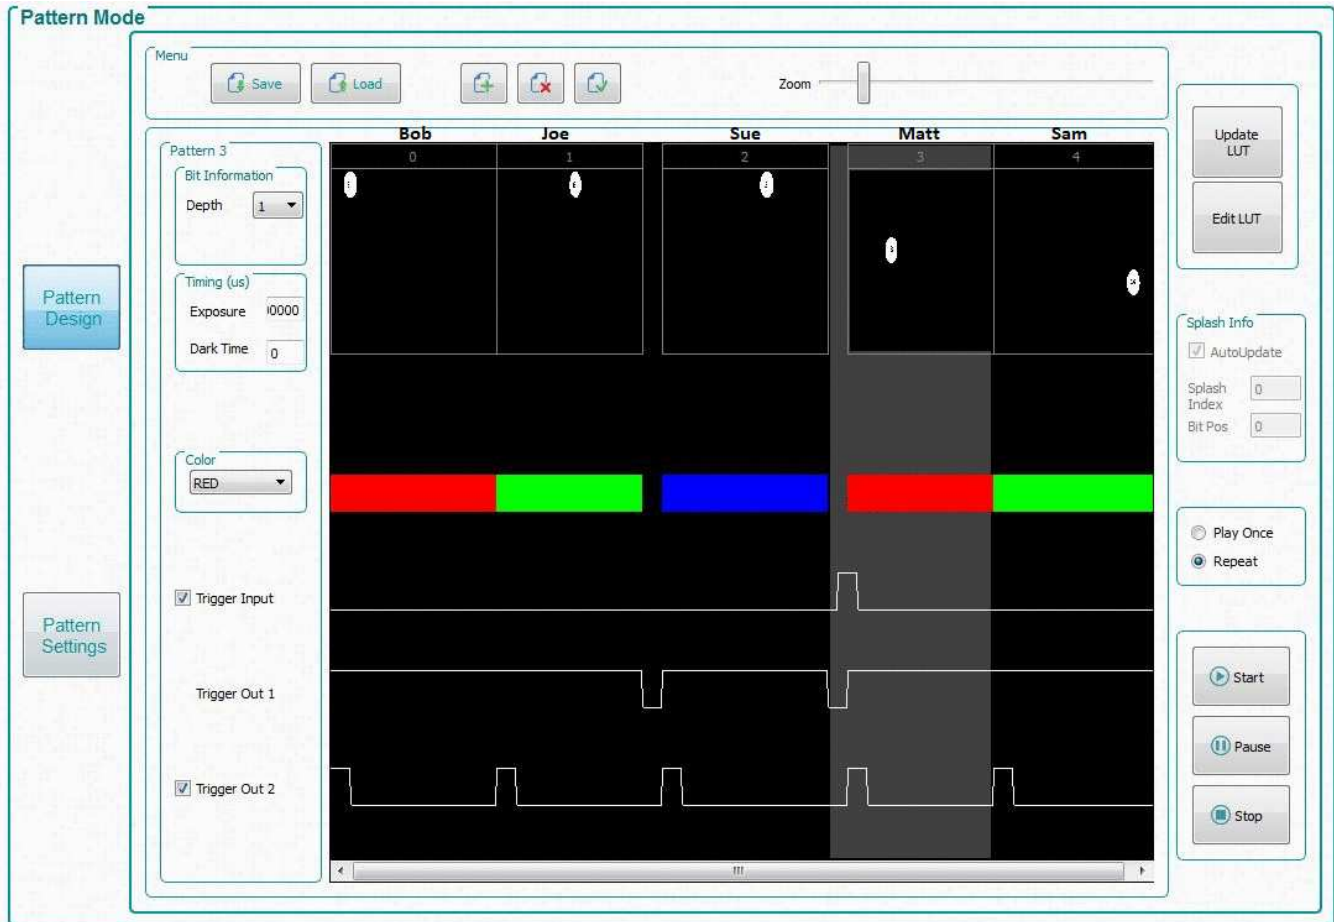
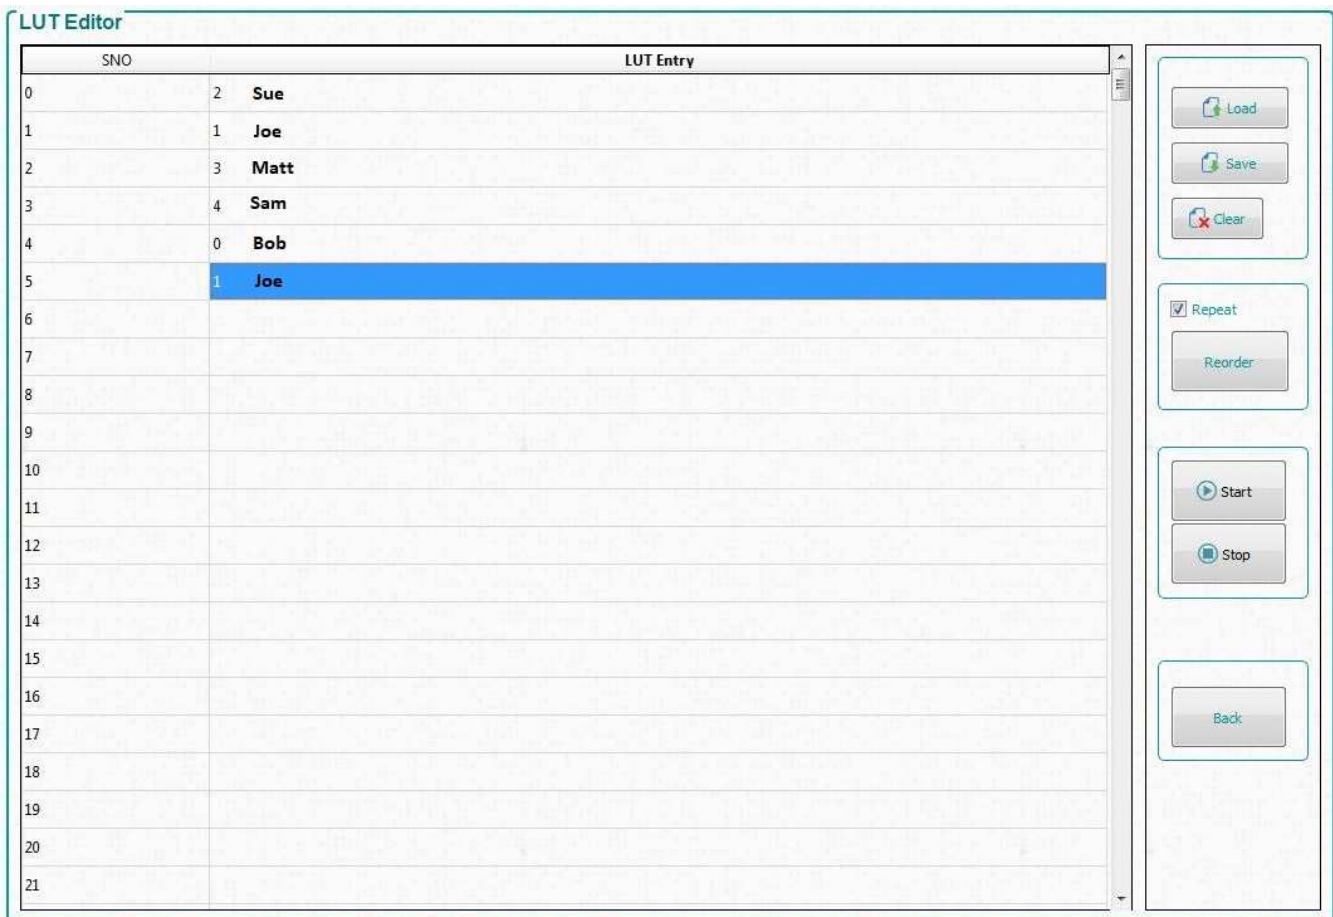

Figure 3-9. Pattern Design Example
Figure 3-10. LUT Editor Panel
The *LUT Editor* panel is shown in Figure 3-10 where the column labeled “SNO” (i.e. Sequence Number) represents the pattern display slot numbers according to the order set (after clicking *Update LUT*) in the *Pattern Design* tab as shown in Figure 3-9. The user can then reorder those patterns by either manually entering the pattern number of their choice into a row in the “LUT entry” column or loading a text file beginning with the word “Reorder” followed by the desired numerical pattern slots as shown in Figure 3-11.
1. By following the steps similar to Section 3.6.2, load five patterns in *Pattern On-The-Fly-Mode* as shown in Figure 3-9.
7. Click the *Edit LUT* button to open the *LUT Editor* panel as shown in Figure 3-10. This panel will initially open with an empty "LUT Entry" column.
8. To reorder the patterns, enter a "2" in "LUT Entry" row 1, and subsequently a "1", "3", "4", "0", and "1" as shown in Figure 3-10.
NOTE: NOTE: When using the GUI interface, each pattern carries several items of information corresponding to the slot that it was inserted in the original LUT. Therefore, when reordering a pattern to a different slot in the LUT, it will retain its original assigned bit information, timing (exposure and dark time), LED color, and trigger information and NOT the information that is located in its reassigned slot in the LUT. For example, if pattern 3 contains a trigger input to begin the user's execution in Figure 3-9 and is reordered to slot 2 as shown in Figure 3-10, the trigger input is now located at slot 3 in the LUT rather than slot 0. In *Pre-Stored Pattern Mode*, reordering the LUT will not change the pattern locations as it does in *Pattern On-The-Fly Mode*. Only the requested bit information, timing, color, and trigger information will be reordered based on the user's updated LUT. However, it is possible to manipulate the pattern information after reordering the sequence by manually editing the batch file commands uploaded to the EVM rather than using the GUI.
It may be helpful to understand the *Edit LUT* feature by giving names to the patterns, as shown above the patterns in Figure 3-9, and treating them as the batting order in a baseball game.. This way, it is easier to picture the distinction between the slot order numbers in the "SNO" column (the new batting order) and the patterns that are inserted into the "LUT Entry" column (the batters).
For example, Bob, retains his batting statistics independent of his batting position (i.e. bit information, timing, color, trigger), so if he is originally bats first (slot 0 in Figure 3-9) but is moved to fifth in the new batting order (reorder LUT entry 4 in Figure 3-10) he retains all of his properties. The only difference is that now he does not bat (i.e. is not displayed) until after the four batters (patterns) preceding him (Sue, Joe, Matt, and Sam). Notice also that in our example Joe bats twice in the new batting order (SNO 2 and 5). There is only one Joe, who bats twice in the new batting order.
In the same way, a pattern in the original pattern list can be displayed in many positions in the reordered display LUT, without adding or removing any patterns in DLPC900 memory. Therefore in terms of the system memory, it is only changed when using the *Update LUT* feature but never when using the *Edit LUT* (Reorder) feature in the Figure 3-9.